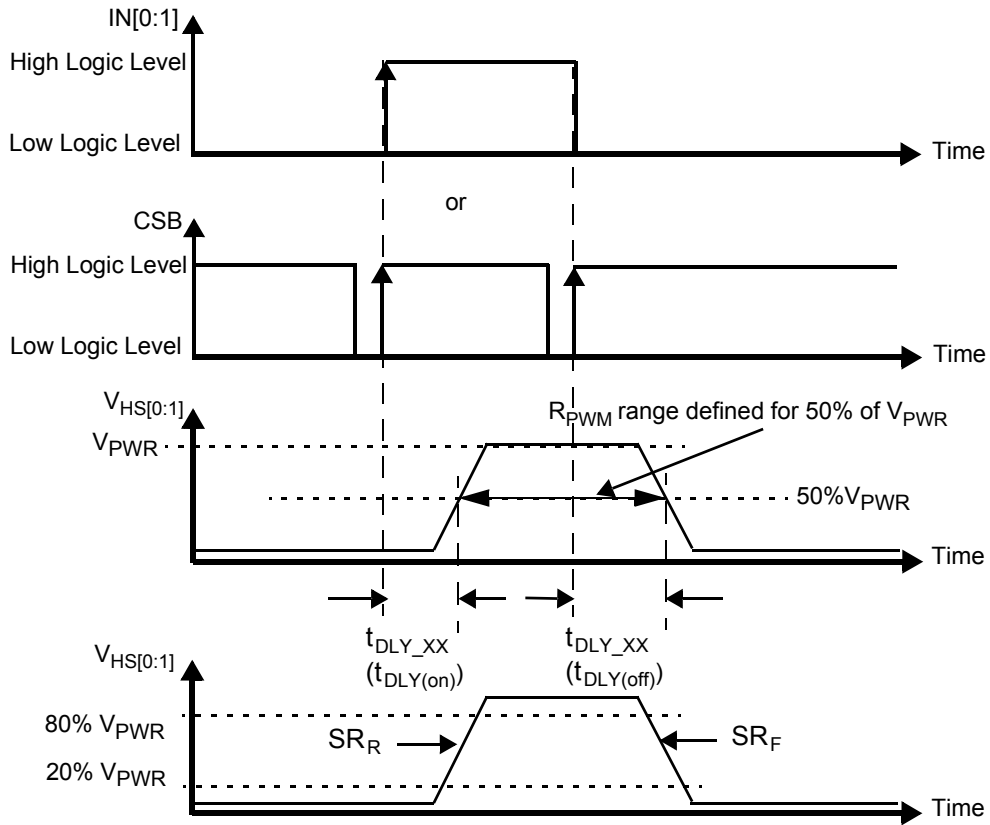
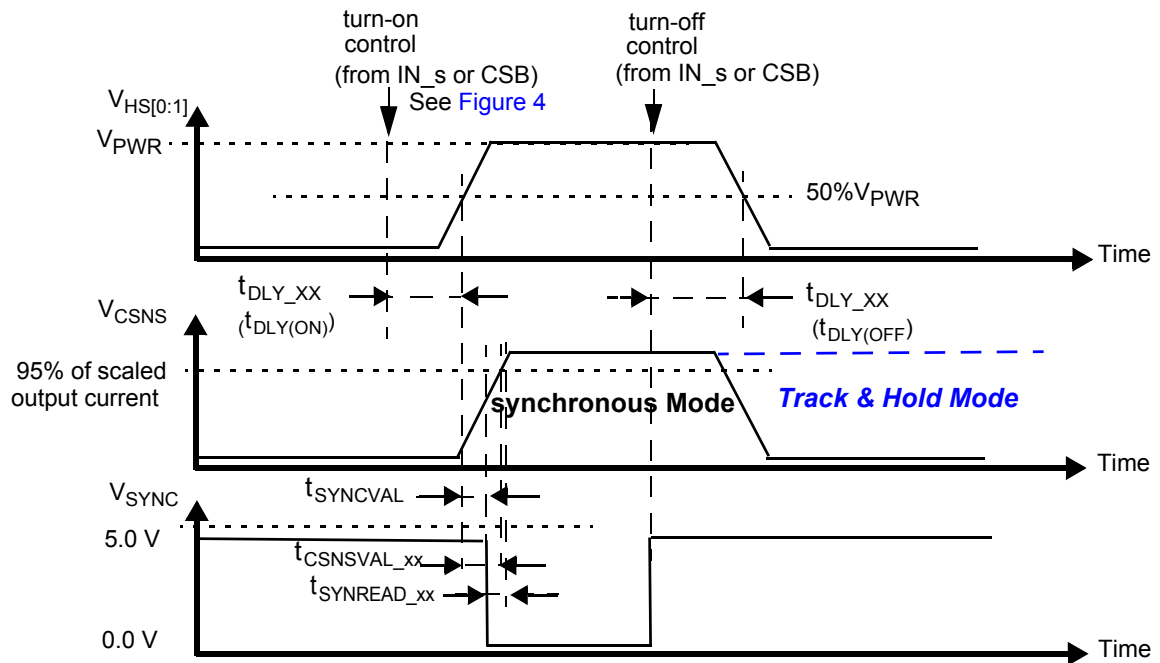

Figure 4. Output Voltage Slew Rate and Delay
Figure 9. Synchronous & Track-and-Hold Current Sensing Modes: Associated Delay & Settling Times
- Rising and Falling edge slew rates specified for a 20% to 80% voltage variation on a 10.0 Ω resistive load (see Figure 4).
- Time required to switch off the channel after detection of overtemperature (OT), overcurrent (OC), SC or UV error (time measured between start of the negative edge on the FSB pin and the falling edge on the output voltage until $V(\text{HS}[0:1]) = 50\%$ of V_{PWR}).
- Settling time ($= t_{CSNSVAL_XX}$), SYNC output signal delay ($= t_{SYNCVAL_XX}$) and Read-out delay ($= t_{SYNREAD_XX}$) are defined for a stepped load current ($100\text{ mA} < I(\text{LOAD}) < I_{OCLX A}$ FOR $\text{CSNS_RATIO_S} = 1$, AND $300\text{ mA} < I(\text{LOAD}) < I_{OCLX A_0}$ FOR $\text{CSNS_RATIO_S} = 0$). (see Figure 9 and Output Current Monitoring (CSNS)).
To synchronize current sensing with an external process, the SYNC signal can be connected to a digital input of an external MCU. SYNC is asserted logic low when the current sense signal is accurate and ready to be read. The current sense signal on the CSNS pin has the specified accuracy $t_{SYNCREAD_XX}$ seconds after the falling edge on the SYNC pin (Figure 9) and remains valid until a rising edge is generated. The rising edge that is generated by the SYNC pin at the turn-OFF instant (internal or external) may also be used to implement synchronization with the external MCU. Parameter $t_{SYNCCVAL_XX}$ is defined as the time between the instant at the middle of the output-voltage rising edge ($HS[0:1] = 50\%$ of V_{PWR}), and the instant at which the voltage on the SYNC-pin drops below 0.4 V (V_{SOL}). The SYNC pins of different devices can be connected together to save micro-controller input channels. However, in this configuration, the CSNS function of only one device should be active at a time. Otherwise, the MCU does not determine the origin of the SYNC signal. The SYNC pin is open drain and requires an external pull-up resistor to V_{DD} .